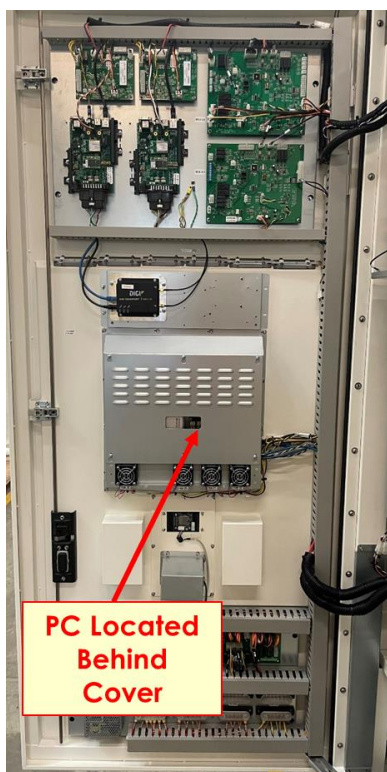

Figure 1
1. To access the PC, remove the display back cover first located at the back of the charge door as shown in **Figure 1**.